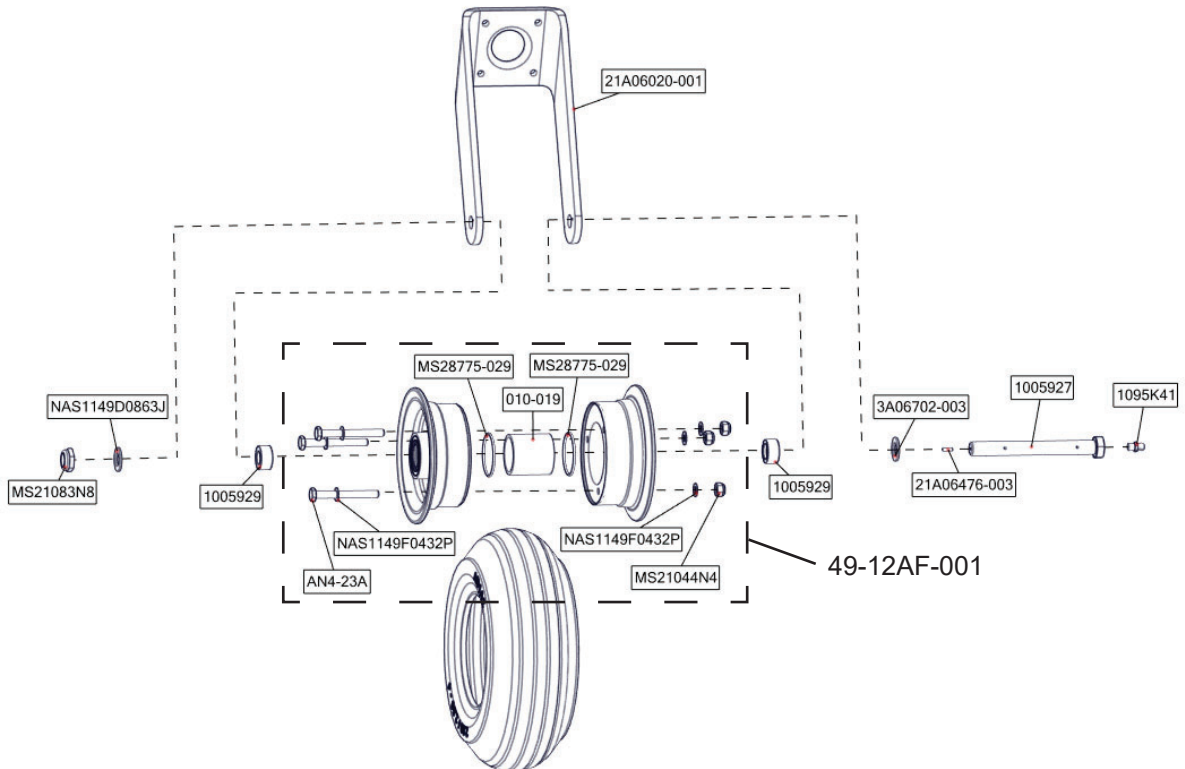

FIGURE 2: 2100, 2350 GROVE ASSEMBLY
- Figure 2: 2100A, 2350 Grove Assembly